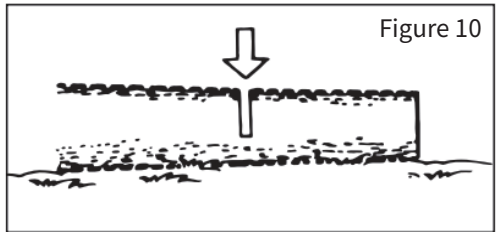

Figure 10
- Cut halfway through the trunk, then roll it over and complete the cut on the opposite side (see Figure 10).